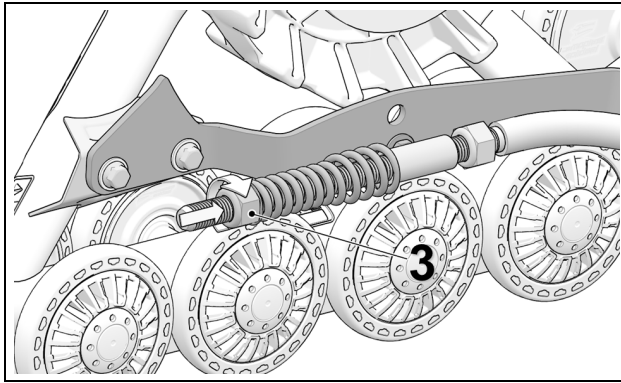

Figure 11
- Turn nut (3) until it comes in contact with spring, then compress spring by rotating nut 1 1/2 turn. See Figure 11.